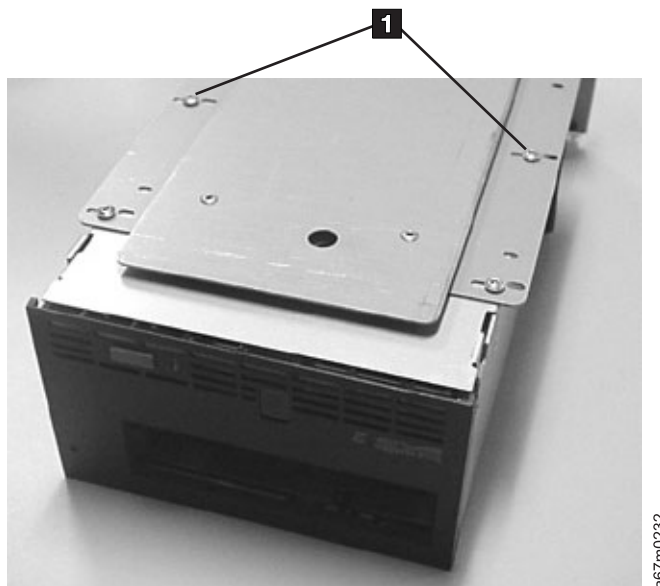

Figure 122. Removing the Four Screws
- ___ 4. Remove the four screws (see **1** in Figure 122).